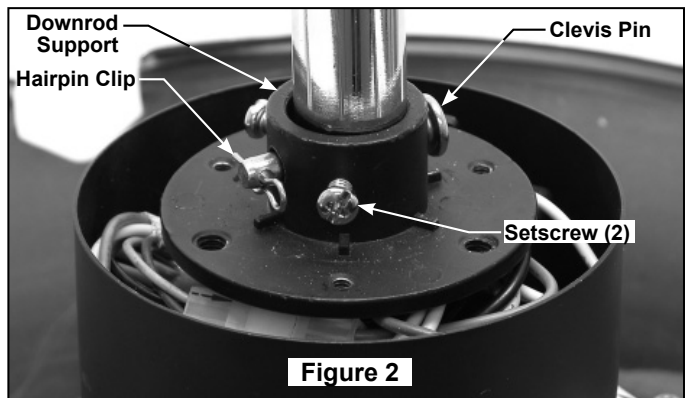

Figure 2
5. Loosen the two setscrews in the Downrod Support. Align the Clevis Pin holes in the Downrod with the holes in the Downrod Support. Install the Clevis Pin and secure with the Hairpin Clip. (Figure 2) Be sure to push the straight leg of the hairpin clip through the hole near the end of the clevis pin until the curved portion of the hairpin clip snaps around the clevis pin. The hairpin clip must be properly installed to prevent the clevis pin from working loose. Pull on the Downrod to make sure the clevis pin is properly installed. (Figure 2)
1. Using the $\frac{3}{8}$ " x 2" lag bolt and flat washer, attach safety cable to ceiling joist or wood structural member. The lag bolt will pass through the flat washer, safety cable loop, and into the building structure (Figure 2). You will first drill a $\frac{1}{4}$ " pilot hole into the building structure to prevent splitting or cracking.
NOTE: Ceiling support cable must be fastened with flat washer and lag bolt (Figure 2).
- Slide Receiver Unit into the Hanger Bracket (Fig 2).
2. Securely attach the Adapter Plate to the motor shaft by tightening the setscrew with the allen wrench supplied with your fan. (Figure 2)